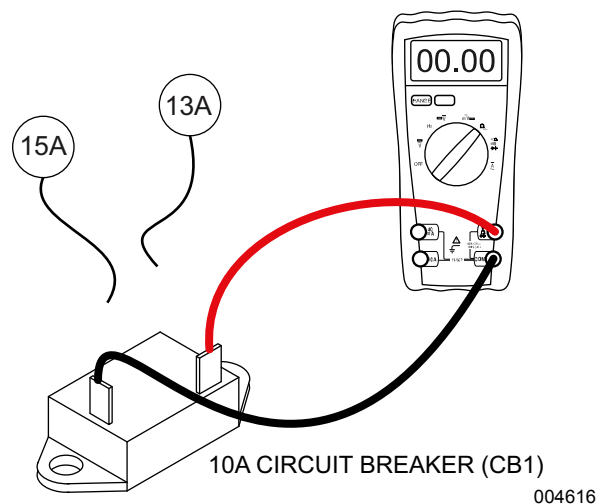

Figure 4-27. Testing 10 Amp Breaker
3. See Figure 4-27. Disconnect wire 15A and wire 13A from the circuit breaker.